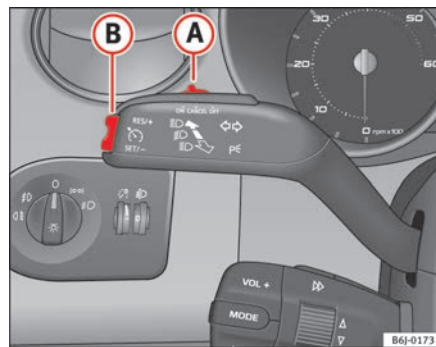

Fig. 105 Indicator and main beam headlight lever: switch and rocker switch for the cruise control
- Move the control  fig. 105 **A** to the left to **ON**.